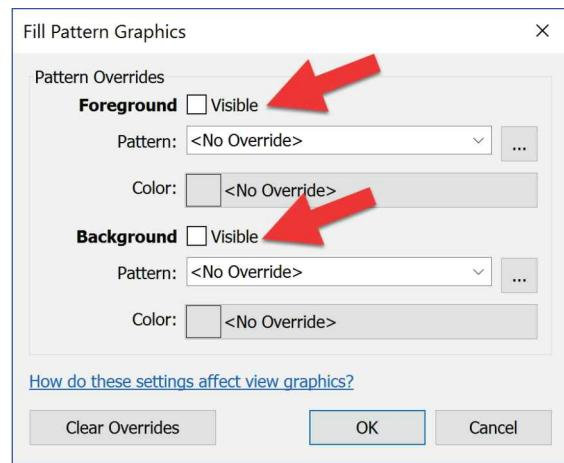

FIGURE 9-1.6 Fill Pattern Graphics
18. Uncheck both *Visible* options, which will make the floor surface pattern not visible in the current view (Figure 9-1.6).
The stipple pattern is no longer visible. The *Visibility/Graphic Overrides* dialog now indicates that the surface pattern is hidden (Figure 9-1.6). Keep in mind, this override is only for the current view. If you create another floor using the same 4" concrete type you just created in the Level 1 floor plan view, it would have the stipple pattern. It would even show up if in another basement level floor plan, as it is possible to create more than one view which references the same *Level Datum*.